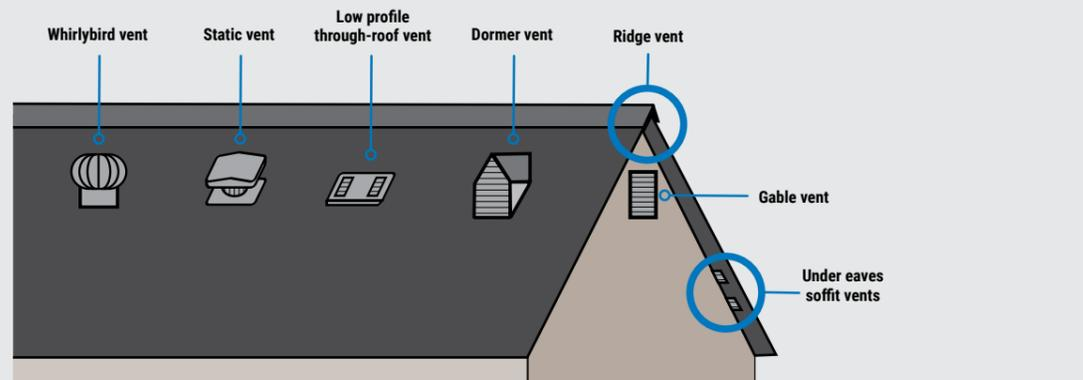

Figure 9: Common types of roof venting
- With roof ventilation openings like gable and roof vents, fit them out with ember guards made of non-combustible material or a mesh or perforated sheet that is made of corrosion-resistant steel or bronze, or is fire rated. Mesh screens should have a maximum opening of 6 mm at all vent openings and vent openings should have a maximum net free area of 0.1 m² (see figure 9, over the page).